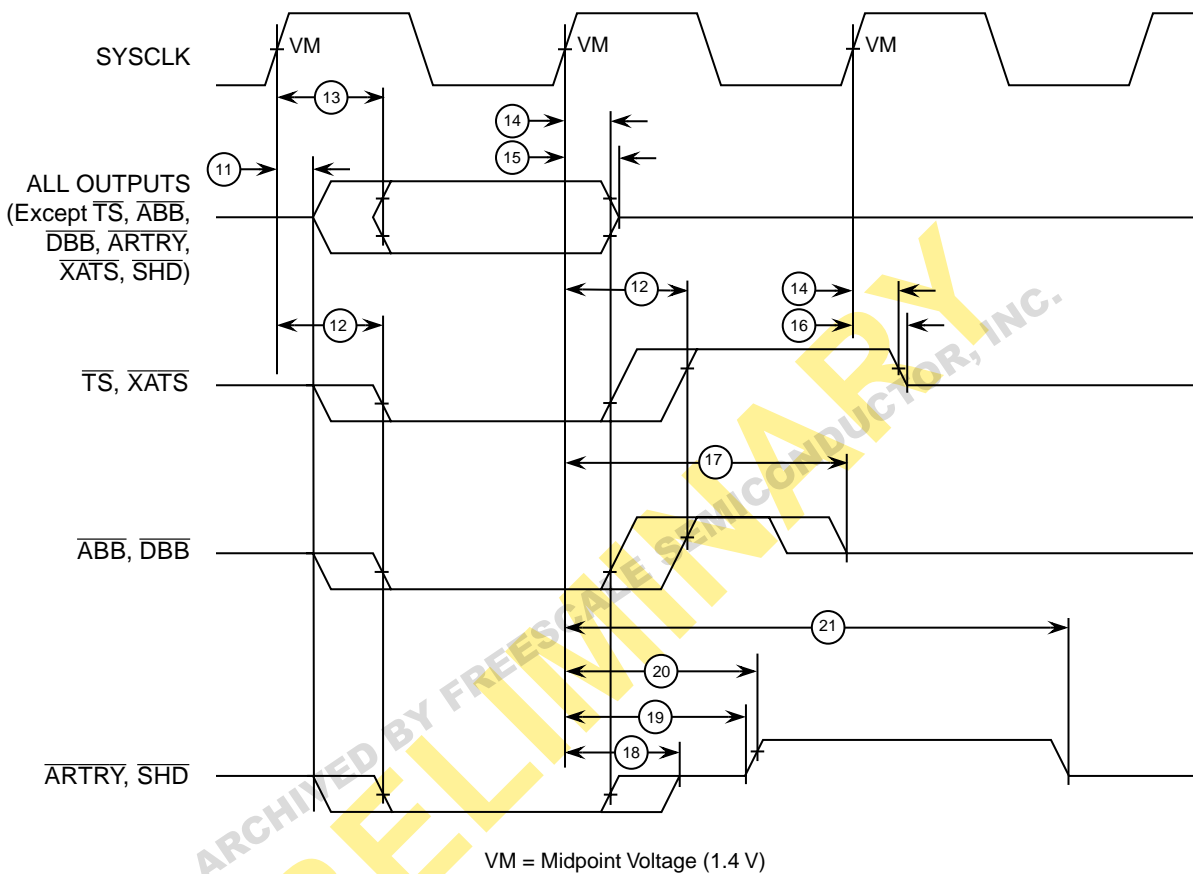

Figure 4. PowerPC 604e Microprocessor Output Timing Diagram
The 604e adds a Fast Out output mode which will allow for increased system bus frequencies. Table 8 provides the output AC timing specifications for the 604e (shown in Figure 4) operating in 604 Compatibility mode and Fast Out mode. 604e Fast Out mode is selected by driving the L2\_TSTCLK pin to GND during assertion of  $\overline{\text{HRESET}}$ . When Fast Out mode is enabled, the output valid and output hold times are reduced.
1. All output specifications are measured from the 1.4 V of the rising edge of SYSCLK to the TTL level (0.8 V or 2.0 V) of the signal in question. Both input and output timings are measured at the pin (see Figure 4).
Figure 4 provides the output timing diagram for the 604e.